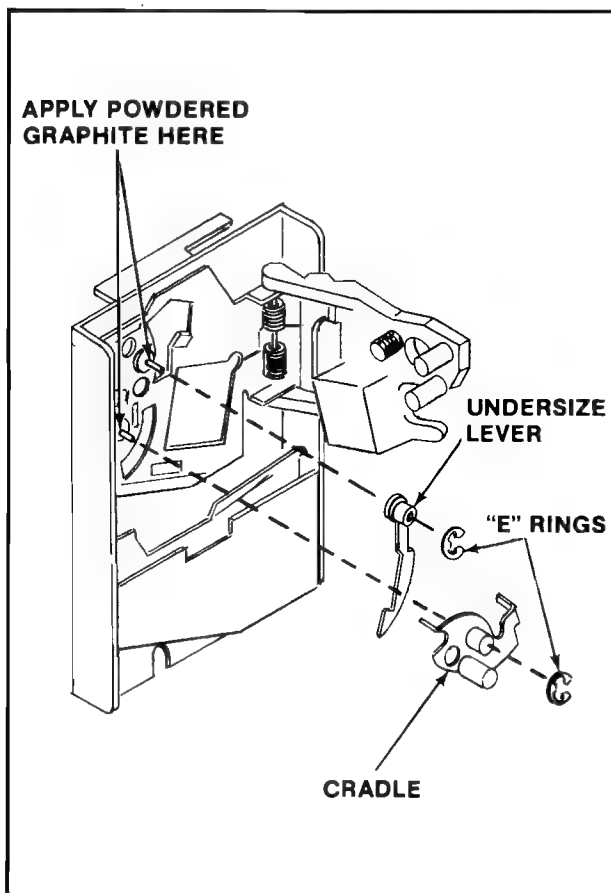

Figure 5-3 Lubricating the Metal Coin Acceptor
□ Use **ONLY** powdered graphite and put it **ONLY** on the moving parts of the coin acceptor. These parts are called out in Figure 5-3.